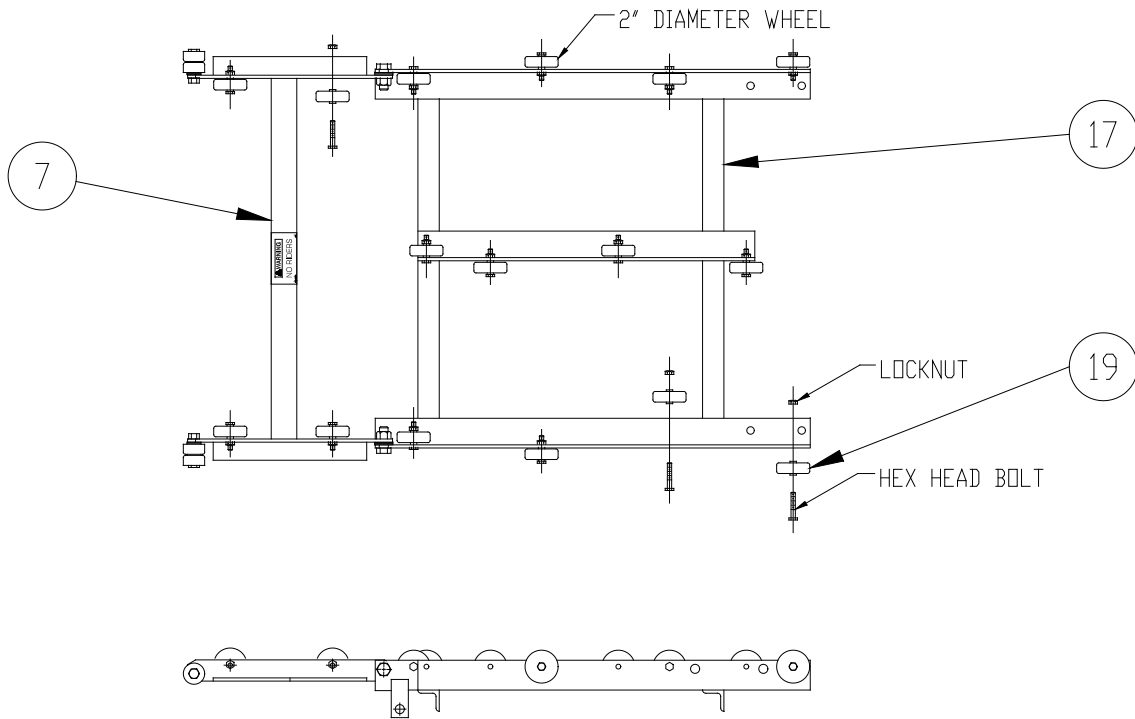

Figure 3-1.
2. Refer to Figure 3-1 (Wheel placement Guide) for correct placement of wheels on platform frame (#17) and pivot bracket (#7).